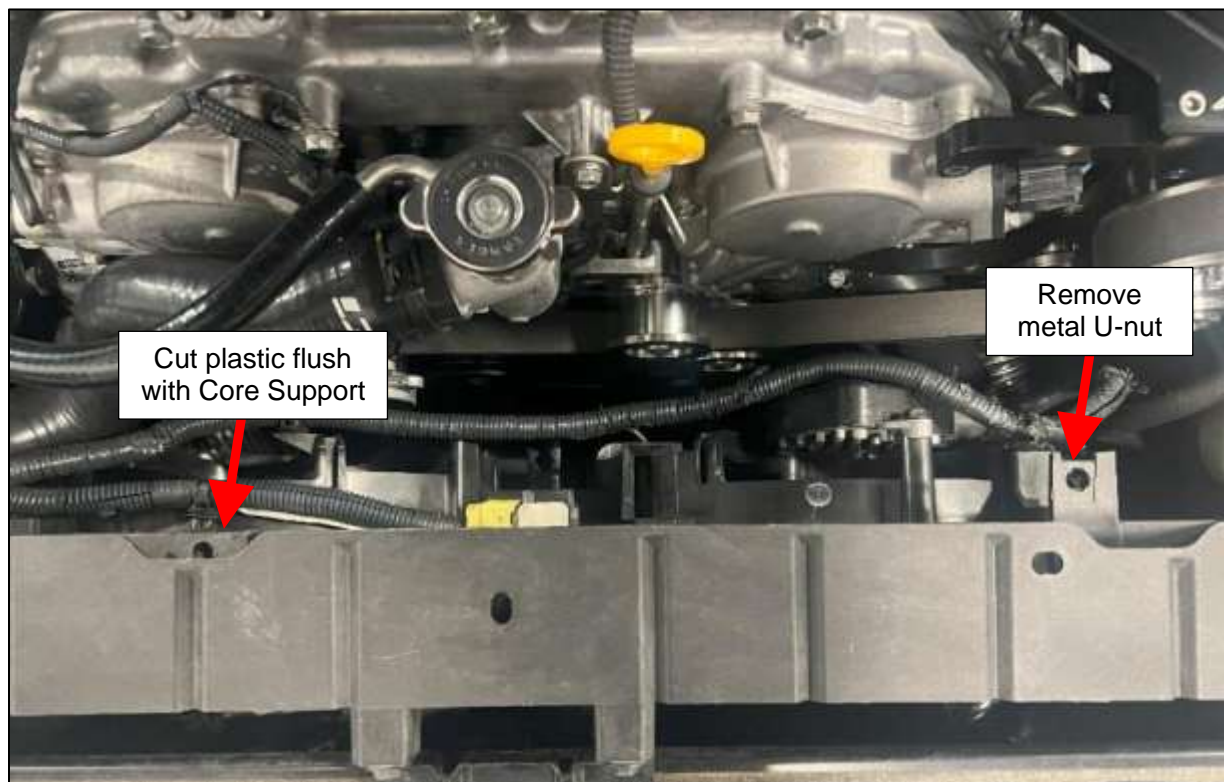

Figure 15
5. There are (2) two tabs on the Radiator Core Support where the OEM Coolant Reservoir was attached. The passenger side tab will need to be cut off with a body saw as it will interfere with the charge piping. The driver side one will need to have the metal U-nut removed to prevent any rubbing on the charge piping. *Figure 15.*
NOTE: *Figure 15* is used to show the modified Core Support and is shown with some of the Supercharger Kit already installed.